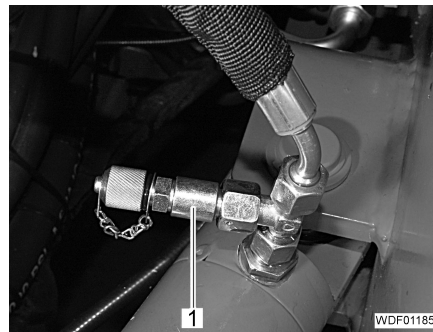

Fig. 38 Test connection
- Install the T-screw connection with the test adapter (Fig. 38,1) in the base hydraulic line of the steering cylinder.